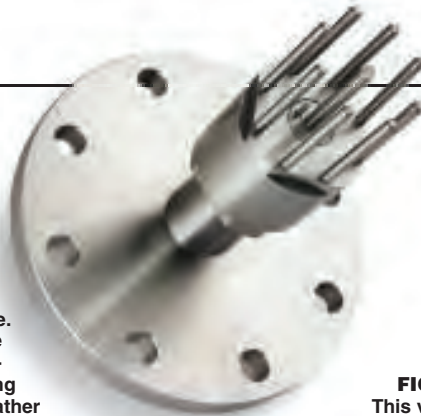

FIGURE 5. This vibrating-probe style viscometer can be mounted on the top of a tank, for example
- Where will the instrument be mounted? This will determine the style of instrument to be used. Examples include a tank/flange mount (Figure 4); a flow-through housing (Figure 1); a probe style for barrels (Figure 5); and mounting from the top of an open tank